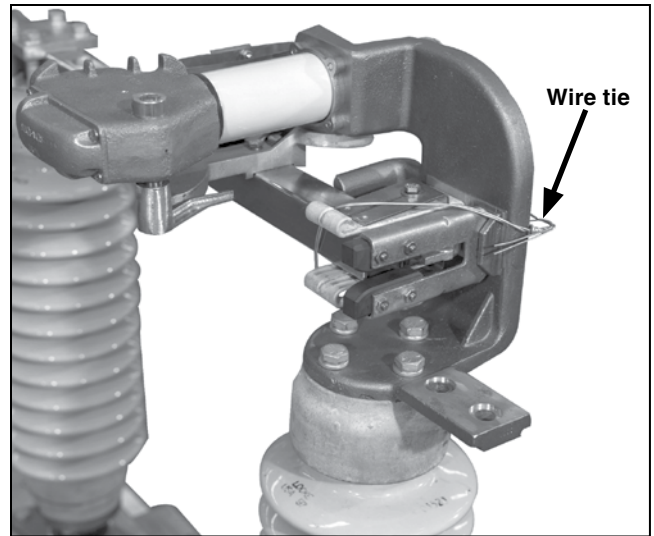

Figure 40. Remove the tie at the stationary main contact assembly.
STEP 38. Remove the ties holding the switch blades to their stationary main contact assemblies. See Figure 40.